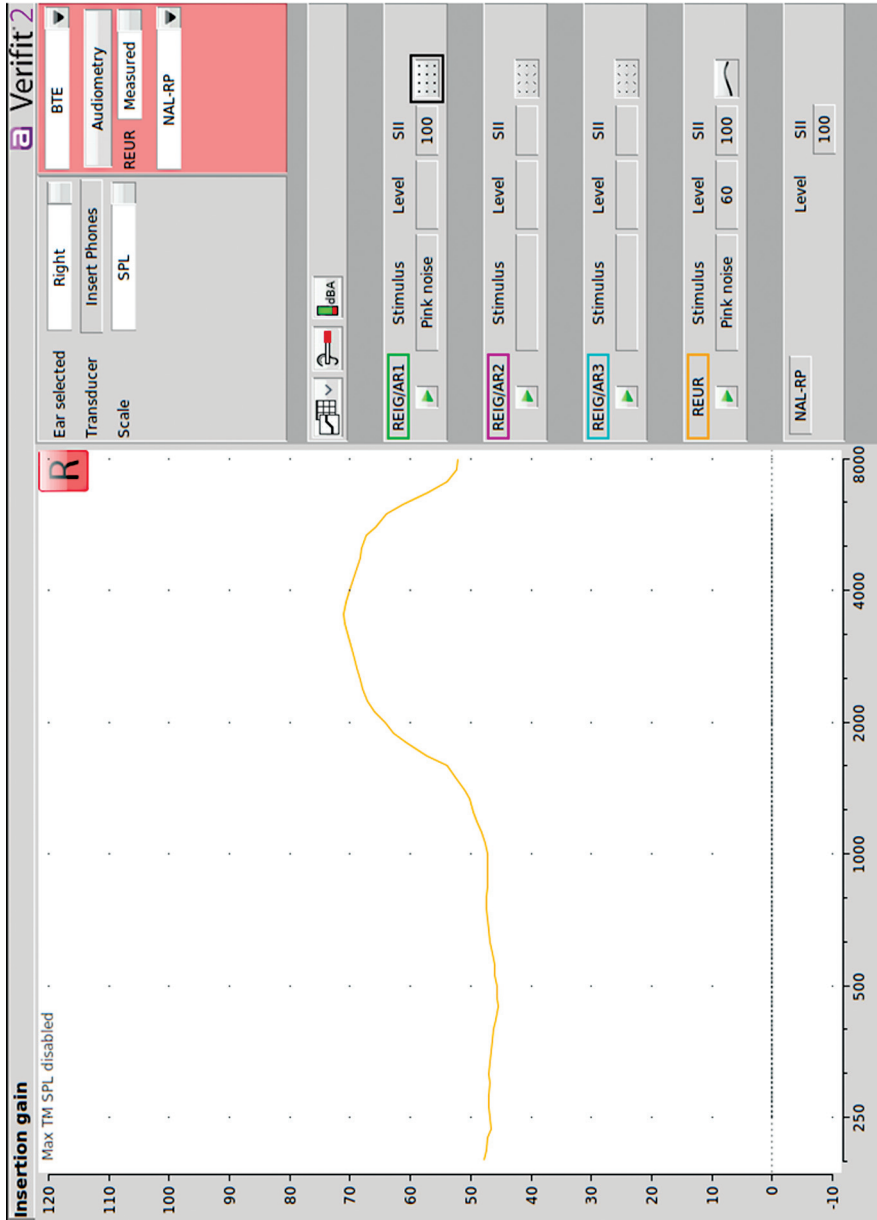

Figure 9 Real-ear unaided response.
4. Click the **green arrow** directly below the REUR text (this is the bottom measurement on the screen). Select **Pink noise** at a moderate level (e.g., **60 dB**). Press the **red circle** to record the curve (Figure 9).